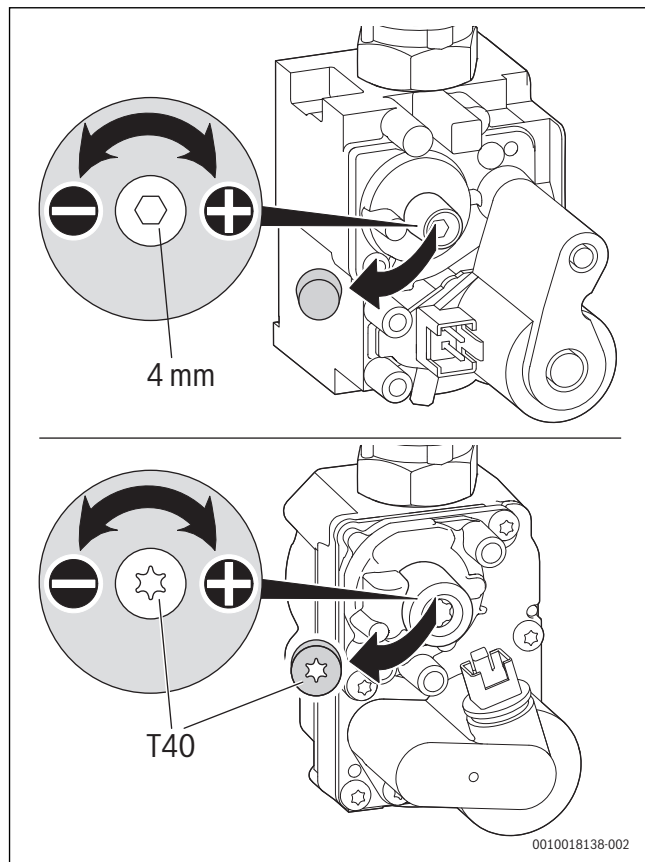

Fig. 95 Setting the CO2 content (above: SIT valve, below: Honeywell valve)
- ▶ Remove the seal from the adjusting screw of the air/gas ratio control valve (only air/gas ratio control valve is shown in the below Fig. 95) and set the CO2 content for minimum rated output.